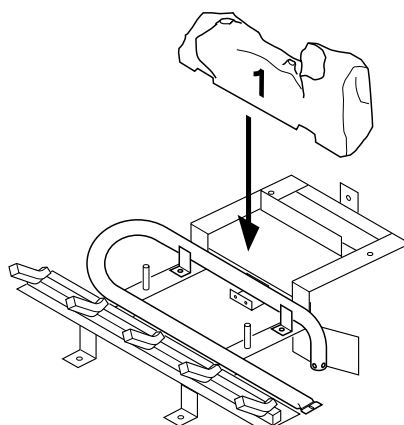

Figure 46 - Installing Log No. 1
1. Place log #1 (back log) on top of grate. Make sure the notches in the bottom of the log fit over the grate (see Figure 46).